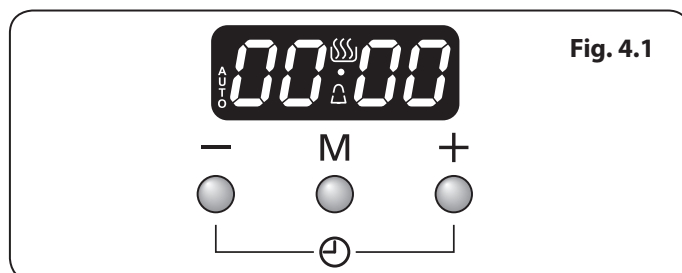

Fig. 4.1
1. The LCD clock is shown in (**Fig. 4.1**). Once the cooker is connected and switched on, the display flashes (00.00) and the time starts from (00.00).